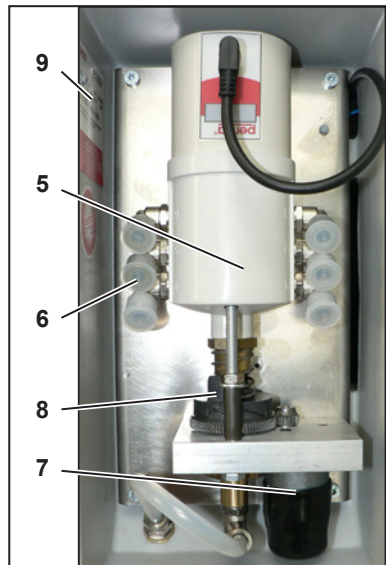

Fig. 3-2 Pump and distributor
- Insert tube ends into lubricant outlets (6, fig. 3-2) and make sure they are tight and secure.